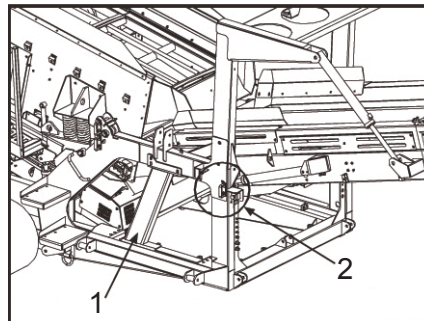

Figure 6.24 - Tail Conveyor Mounts and Slide Ram Pin
1. Once side conveyor has been removed, jack-up screenbox and slide back tail conveyor. Pin jack-up screenbox. The jack up control valve is located in the power unit and the tail conveyor slide back lever on the LH side of machine. Fit RH & LH drop down tail conveyor mounts (Item 1) using the bolts supplied. Reference: Figure 6.24.
2. Using the 4 bank lever located on the LH side of the machine, slide the tail conveyor back to its working position. Take the weight off the tail conveyor, slide back ram and remove (Item 2), shown in Figure 6.24.